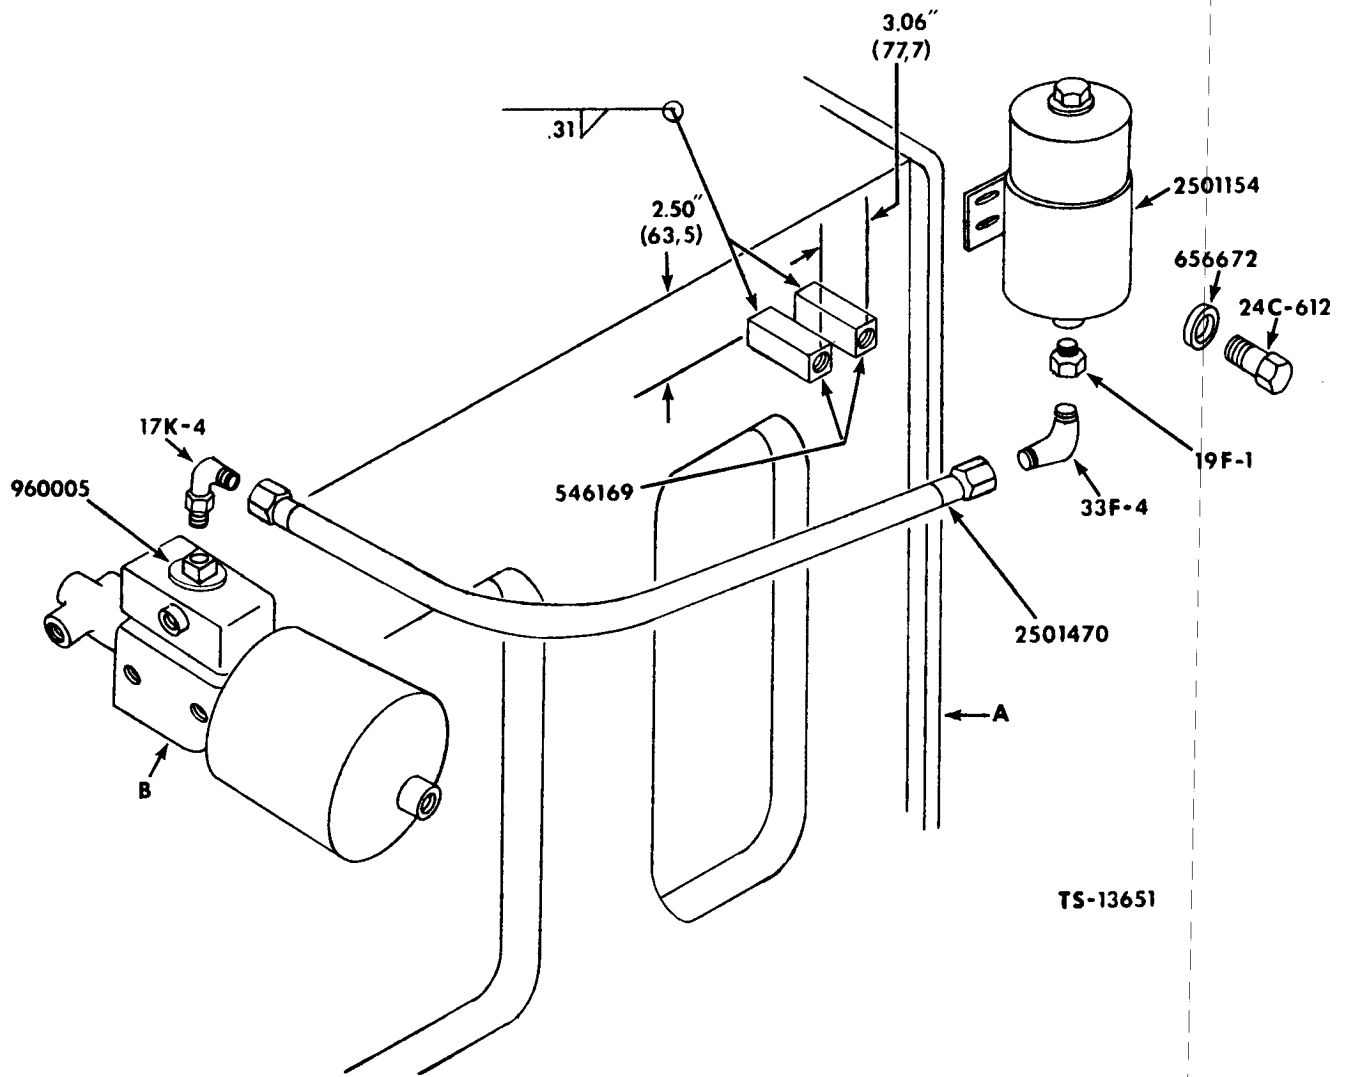

Figure 1
1. Weld (2) 546169 Tapped Blocks on front frame with a .31 fillet weld all around each block as shown in Figure 1, using a .1875 diameter AWS-E-7014 electrode or equivalent.
3. Install (1) 2501154 Reservoir on front frame as shown in Figure 1 and (1) 2501154 Reservoir on inside rear wall of cockpit as shown in Figure 2, using tapped blocks installed in Steps 1 and 2. Fasten each reservoir in place using (2) 24C-612 Bolts and (2) 656672 Washers.
4. Remove existing fill cap from each master cylinder and install (1) 960005 Cap in its place.
5. Install (1) 19F-1 Reducer Bushing in the bottom of each reservoir.
6. Install (1) 17K-4 90° Adapter Fitting in the new fill cap on both master cylinders.
7. Install (1) 33F-4 Elbow in reducer bushing in bottom of both reservoirs.
8. Install both 2501470 Hoses connecting reservoir assemblies to master cylinder assemblies as shown in Figures 1 and 2.